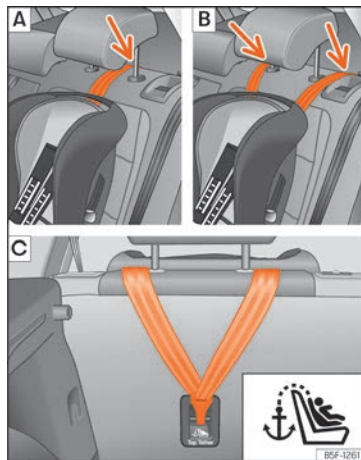
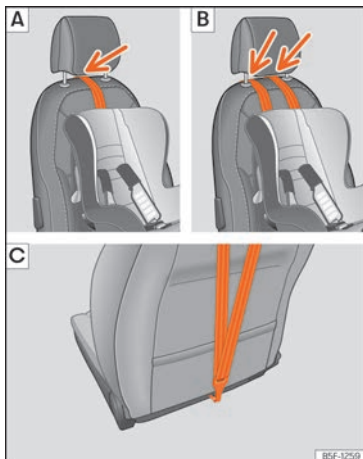

Fig. 34 Rear seats: adjustment and assembly according to the Top Tether belt.
Fig. 35 Front passenger seat: adjustment and assembly according to the Top Tether belt.
»» Fig. 34 [A]/[B], »»» Fig. 35 [A]/[B].
- Slide the strap and secure it properly with the anchorage of the backrest »»» Fig. 34 [C], »»» Fig. 35 [C].